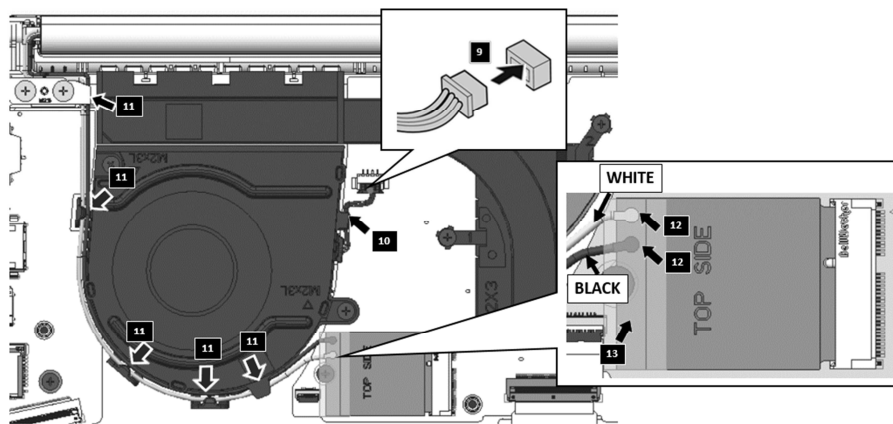

Figure 4-5 Fan Cable and W-lan Cable Routing
1. Seat the fan in the correct position on the logic upper assembly and insert the fan connector ,9 and tuck the fan cable into the fan hook ,10. as shown in Figure 4-5.
6. For the w-lan cable routing, tuck the w-lan cable into the fan hook ,11, and wlan cable connector insert the wlan card ,12. Finally, paste wlan mylar on the w-lan module ,13 as shown in Figure 4-5.